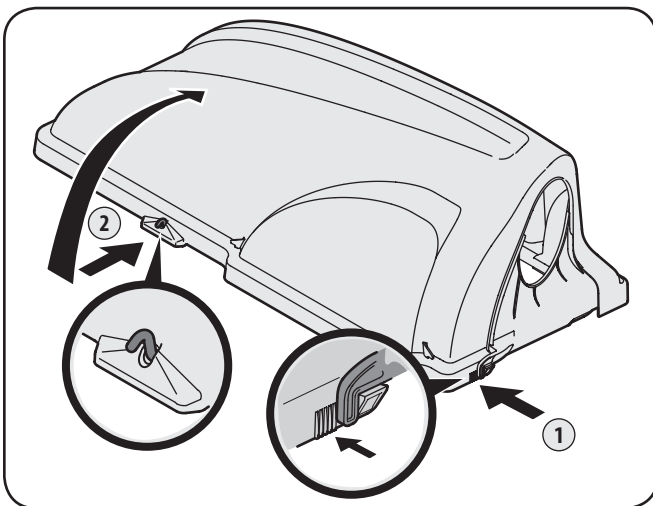

Figure 4-13
7. Open Hood by pushing in on the rear, right-side tab with your right hand, as seen in 1 of Figure 4-13, and lifting the cover with your left hand in the center rear of the bagger cover, 2.